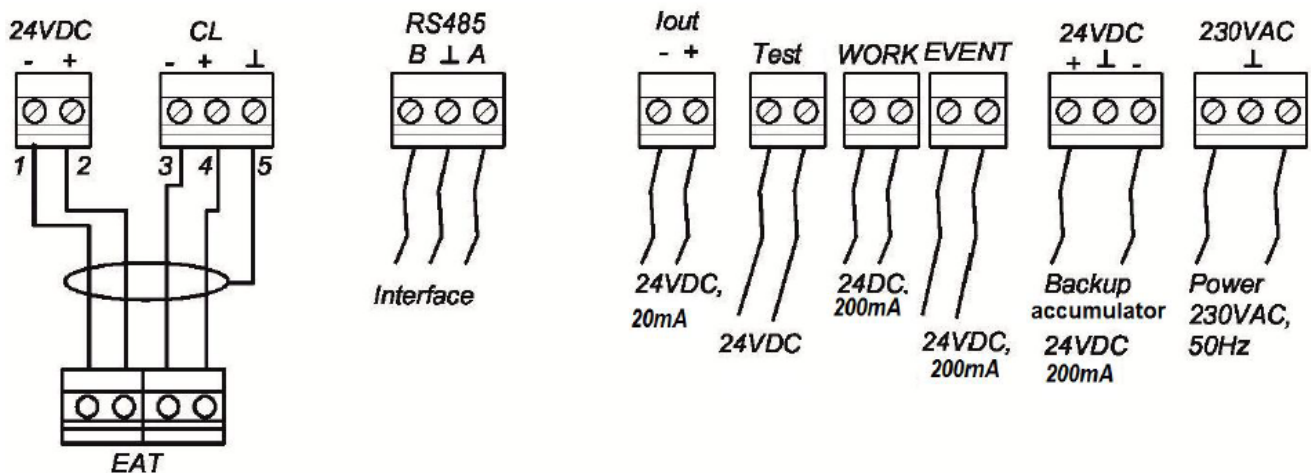

Fig.4
3. The Electronics Unit is installed remotely and has an array of LEDs as well as a local display and a keyboard. The Electronic Unit must be installed in safe zone. The Electronics unit has an terminal box for various inputs and outputs, the designation of each terminal is depicted inside the lid of the terminal box (fig. 4). All connections should be carried out through suitable cable glands only